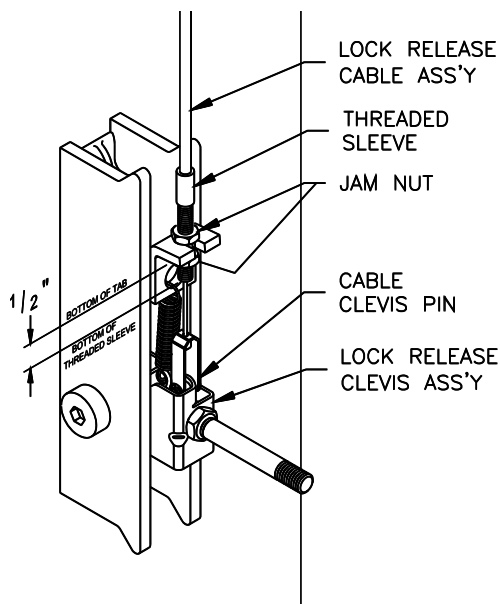

Fig 12 – Power Column Lock Assembly
- 31) Attach Mechanical Lock Release Cable Assembly to Power Column Lock Release Clevis using the 3/16" diameter x 1/2" long pin and (2) "C" clip retainers, **Fig 12**.
- 32) Insert threaded sleeve portion of cable assembly in slot located on tab above locking pawl, **Fig 12**. One jam nut should be located on each side of tab. Position threaded sleeve with 1/2" of thread below tab as indicated in **Fig 12** and tighten jam nuts.
- 35) Insert threaded sleeve portion of cable assembly in slot located on tab below lock pawl, **Fig 12**. With one jam nut located on each side of tab, adjust the threaded sleeve to begin to pull tension on the 1/2" O.D. spring. Snug jam nuts by hand.